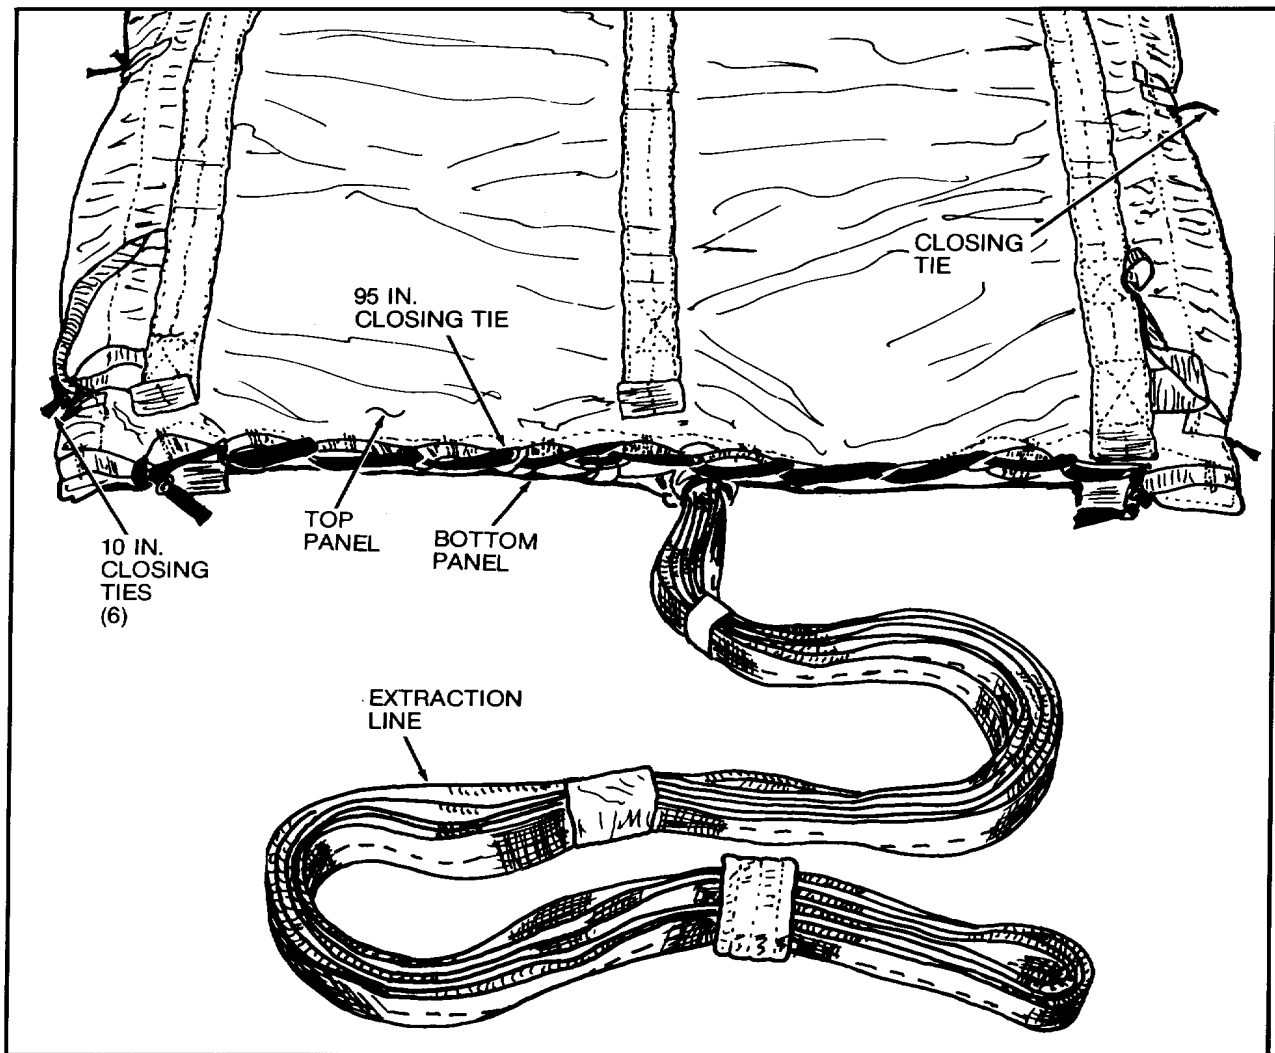

Figure 6. Extraction Line Bag Closed.
- c. Beginning at lower left corner of panels, secure one end of 95-inch nylon webbing bag-closing tie to lacing loops located on outside edge of top and bottom panels with three alternating half-hitches and an overhand knot in running end (figure 6).